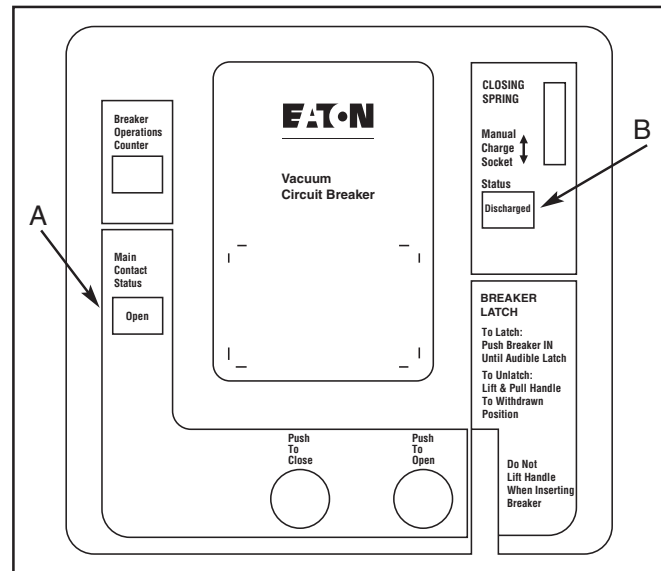

Figure 6-6 Status Indicators ("A" shows the contact status indication and "B" shows the spring indication.)
Step 1 - On the front cover identify the status indicators. **Make sure the closing spring status indicates "DISCHARGED" and the main contact indicator shows "OPEN"** (Figure 6-6).